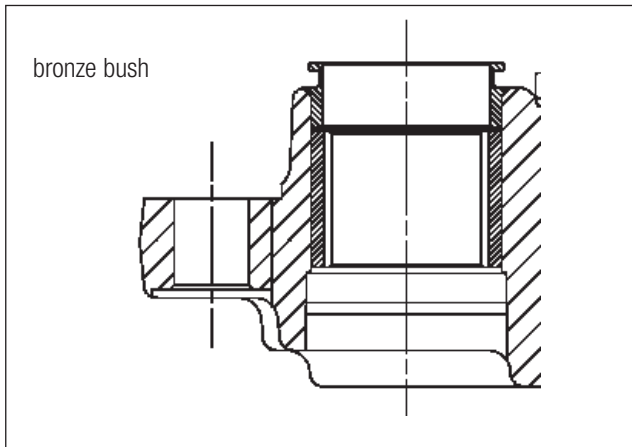

Fig. 11.4
3. A plain guide sleeve with an oval bronze bush and separate dust excluder retainer (Fig. 11.4).